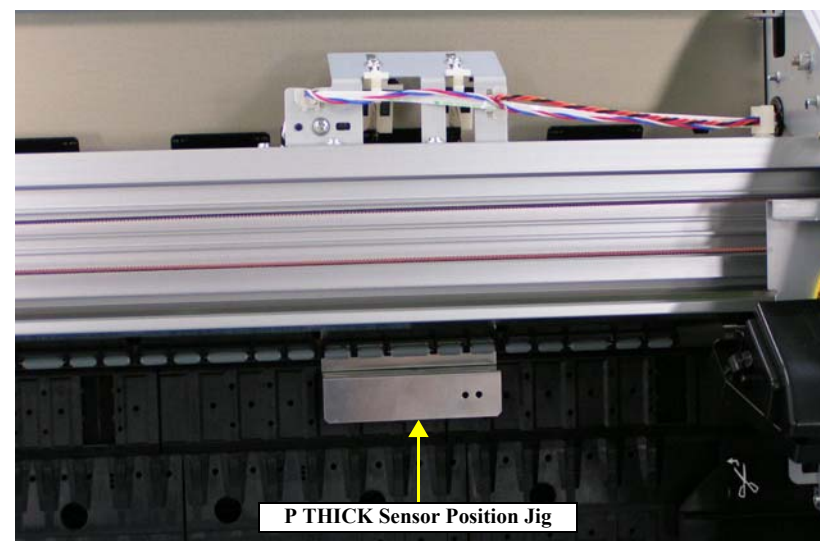

Figure 5-11. Paper Thickness Sensor Position Adjustment (1)
5. Release the Paper Set Lever to set the P THICK Sensor Position Jig (0.2) to the position shown in Figure 5-11, and press the Paper Set Lever down. Check that "Sensor: Paper 00" is displayed on the LCD panel. If the displayed value is other than the "00", the sensor position adjustment must be carried out.
6. Release the Paper Set Lever to set the P THICK Sensor Position Jig (0.3) to the position shown in Figure 5-11, and press the Paper Set Lever down. Check that "Sensor: Paper 10" is displayed on the LCD panel.
7. Release the Paper Set Lever to set the P THICK Sensor Position Jig (0.5) to the position shown in Figure 5-11, and press the Paper Set Lever down. Check that "Sensor: Paper 10" is displayed on the LCD panel. If the displayed value is other than the "10", the sensor position adjustment must be carried out.
8. Release the Paper Set Lever to set the P THICK Sensor Position Jig (0.6) to the position shown in Figure 5-11, and press the Paper Set Lever down. Check that "Sensor: Paper 11" is displayed on the LCD panel. If the displayed value is other than the "11", the sensor position adjustment must be carried out.